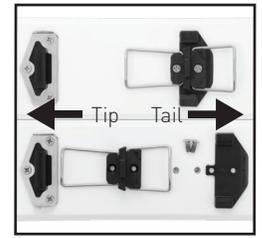

Figure 2
- With the square tab of the Climbing Heel Shim facing the tip of the splitboard, place the shim under the Climbing Wire assembly. (see figure 2)